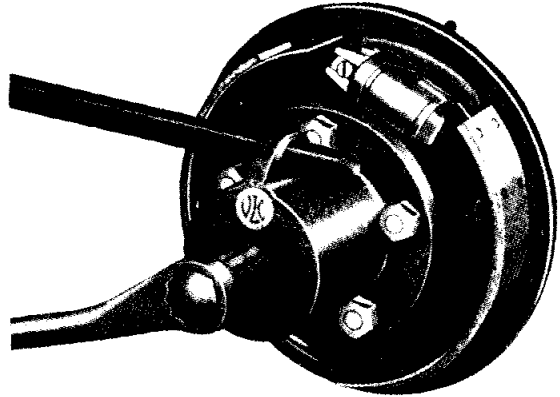

Fig. 3
- (ii) Withdraw split pin and remove castellated nut from end of half shaft and remove rear hub with extractor, as shown in Fig. 3.